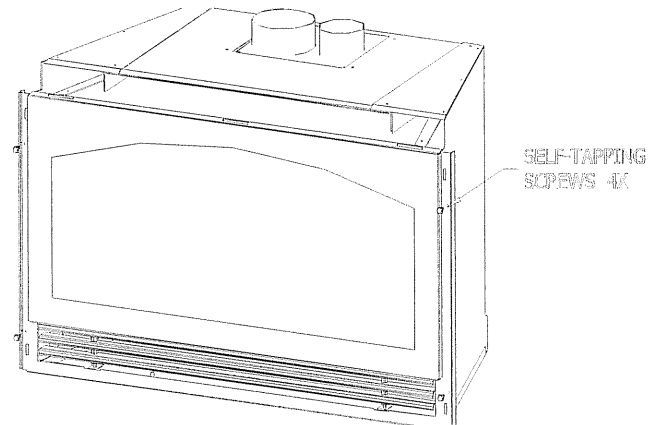

Figure F-1
1. SECURE THE MASONRY SIDE PANELS: With the panels 'outside' the flange at the bottom of the insert, align the holes in the masonry side panels to the holes in the face of the insert and secure with 4 - sheet metal screws (2 ea. side.), see Figure F-1.